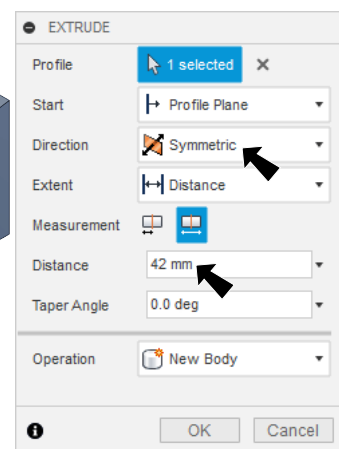

Fig. 6
Step 9. In the Extrude panel set, **Fig. 6**